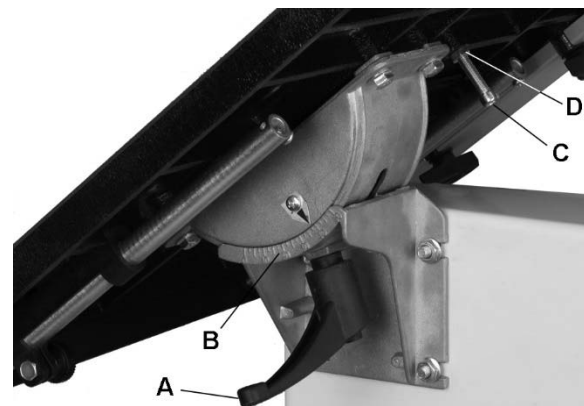

Figure 9
1. Loosen lock handle (shown in Figure 9) and pivot trunnion (A1) to horizontal position.
2. Loosen lock knob (C2) and pull extension (C1) out from the table (C).
NOTE: Lock handle (A, Figure 9) is adjustable – pull down on handle and rotate on pin. Release handle, making sure it settles back onto pin.
Refer to Figures 9 and 10.
The table stop (C, Figure 9) is typically set to stop the table at 90° (perpendicular) with the blade.
2. Loosen lock knob (A, Figure 9); then tilt table down, bringing it to rest against table stop (C, Figure 9).
4. If an adjustment is necessary, tilt table up to access table stop (C, Figure 9).
5. Loosen jam nut (D, Figure 9) and turn table stop in or out to raise or lower the stop. Tighten the jam nut to hold table stop in place.
For left tilt down to 5°, the table stop (C, Figure 9) must be adjusted further.